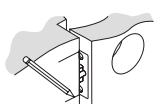

Figure 4a
- Mark center hole on edge of jamb even with the center of the Latch Bolt on door edge. (Figure 4a).